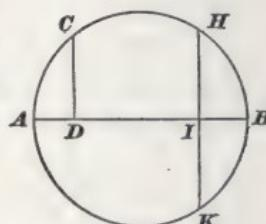

FIG. 47.
If  $AB$ , Fig. 47, is the given diameter and  $C$  any point on the circumference, then  $AD : CD = CD : DB$ ,  $CD$  being a mean proportional between  $AD$  and  $DB$ .
**EXAMPLE.**—In Fig. 47, the diameter of the circle  $AB$  is  $36\frac{1}{8}$  feet and the distance  $BI$  is 8 feet; what is the length of the line  $HK$ ?
2. Suppose that in Fig. 47, the diameter  $AB = 15$  feet and the distance  $BI = 8$  feet. What is the length of the line  $HK$ ? Ans. 12 ft.